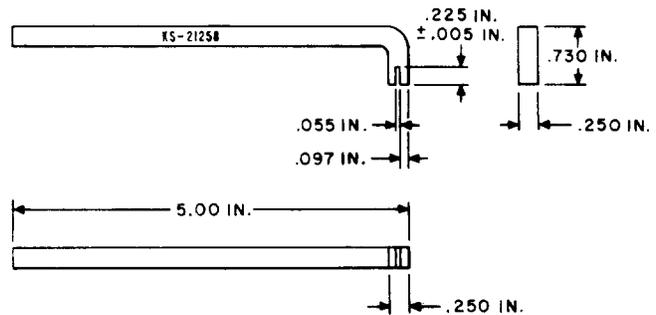

Fig. 17—KS-21258, L1, Adjuster Tool
2.19 KS-21258, L1: The KS-21258, L1, adjuster tool (Fig. 17) is used for adjusting the backstop of the U- and Y-type relays.